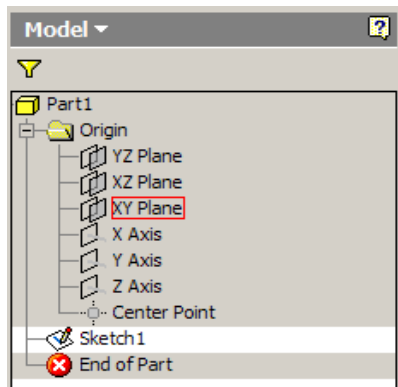

**Figure Step 2A**
**Step 2** In 2D sketch mode, press F6 to change to the home/isometric view. The graphic window and the Browser Bar will appear as shown in the figures. (Figure Step 2A and 2B)